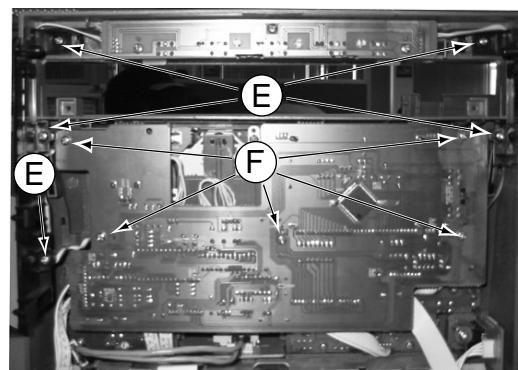

Figure 7
- 1) Loosen 5 screws ' E' to remove the Bracket CDC Right as shown in figure 7.
- 2) Loosen 5 screws ' F' to remove the KEY board figure 7.